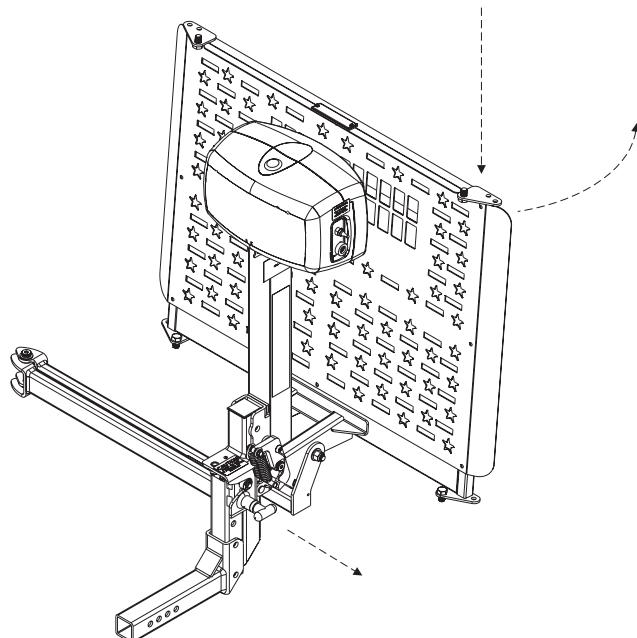

Figure 7-11
*NOTE: On the AL105L model, the platform must be pushed down and away from the vehicle to release the latching mechanism. See Figure 7-11.*